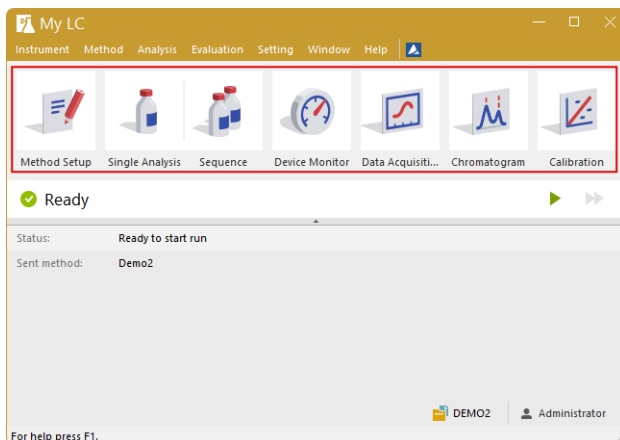

Fig. 13: Instrument window
The *Instrument* window will open. **Fig. 13** on pg. **19**. shows the most important icons in the *Instrument* window. During the tour, we will review all windows belonging to these icons.
- After the parameter setup, you can run the analysis by clicking the **Run** button ⑦. The **Single Analysis** dialog will close now. If you open it again, you will see three additional buttons (**Stop**, **Abort**, **Snapshot**) that will allow you to stop or abort the analysis or take snapshots (see the chapter "**Data Acquisition window**" on pg. 21.).
- In the **Instrument** window look at the **Status line** (see Fig. 13 on pg. 19.). The acquisition is now signaled by the **RUNNING** state and the actual run time is shown there.
- To see the data acquisition in process and control it if necessary, click the **Data Acquisition** 📊 icon (see Fig. 13 on pg. 19.) to open the **Data Acquisition** window.
- Depending on your Instrument's configuration, one or more signals may be displayed. The number of detectors (signals) and their names can be seen in the upper right corner of the graph ①.